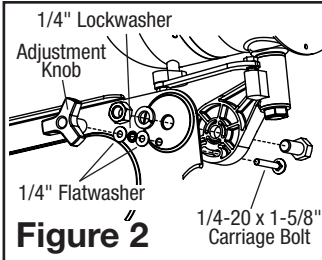

Figure 2
4. **To Fasten:** From the same side of the motor neck, insert one 1/4-20 x 1-5/8" carriage bolt through the arc-shaped slot in the motor neck and hole in the wall bracket. Place one 1/4" flatwasher, one 1/4" internal tooth lockwasher, a second 1/4" flatwasher and then tighten the adjustable knob over the remaining threads (**Figure 2**).